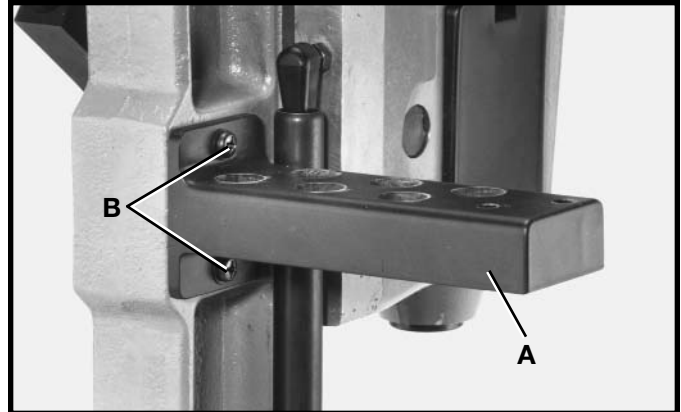

Fig. 14
1. Assemble tool and chisel holder (A) Fig. 14, to side of column using the two M6 x 25mm screws (B) and flat washers as shown.